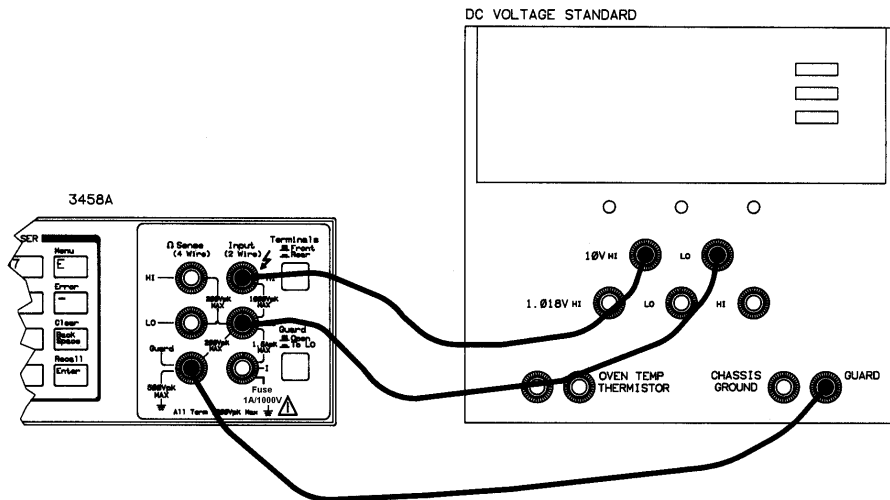
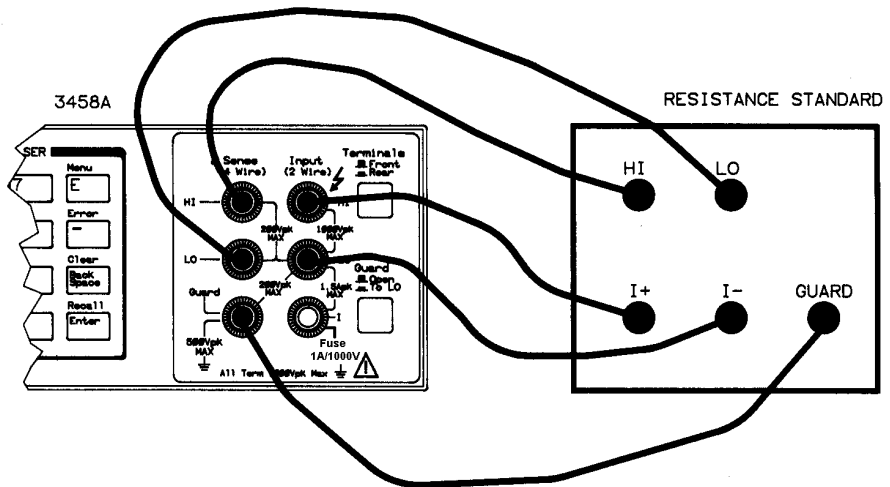

Figure 3-2 DC gain adjustment connections
Figure 3-3 Resistance and DC current adjustment connections
- 3 Connect the voltage standard to the multimeter's front panel HI and LO Input terminals as shown in Figure 3-2. If using a Guard wire (as shown in Figure 3-2), set the Guard switch to the Open position. If not using a Guard wire, set the Guard switch to the To LO position.
- 4** Connect the resistance standard to the multimeter's front panel HI and LO Input and HI and LO Sense terminals as shown in Figure 3-3. If using a Guard wire (as shown in Figure 3-2), set the Guard switch to the Open position. If not using a Guard wire, set the Guard switch to the To LO position.